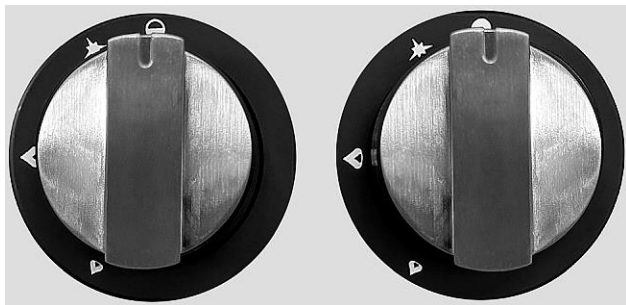

Fig. 16
1. Make sure that all control knobs are in the OFF position (O) (Fig. 16).